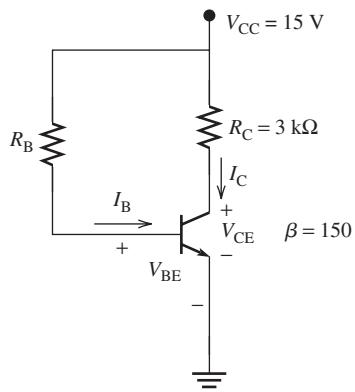

FIGURE P8.41 Circuit for Problem 8.41.
- 8.41** (A) For the circuit shown in Figure P8.41, find the value of the resistor, R_B , which adjusts the collector-emitter voltage to be 6 V.